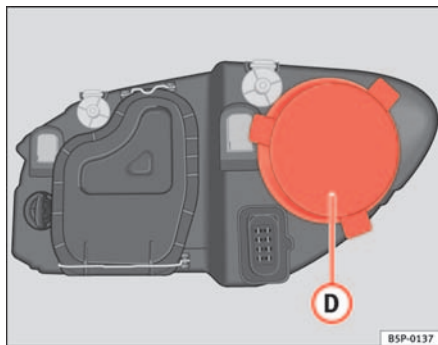

Fig. 185 Side lights
- Remove the cover ⇒ fig. 185 ① by pulling on this.